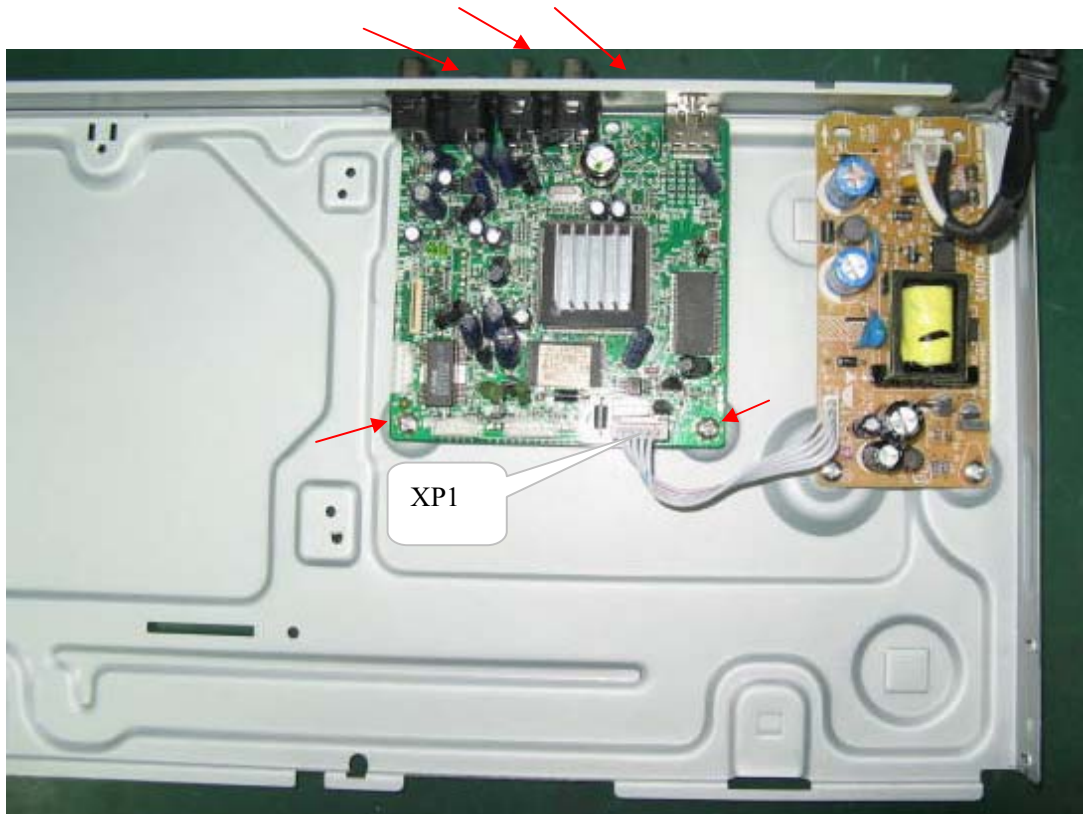

Figure 8
Step6: Dismantling Main Board, first disconnect the connector (XP1), and then remove 5 screws. (Figure 8)